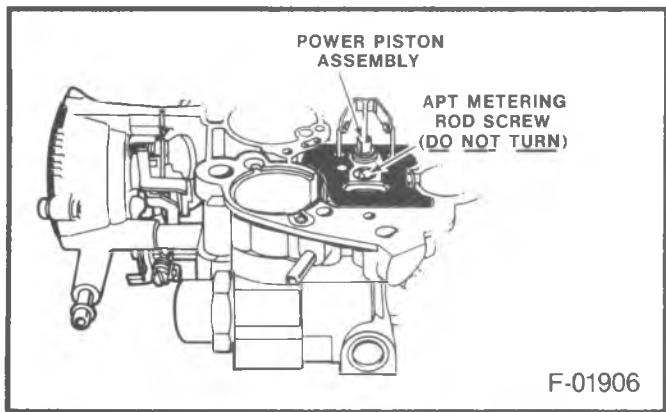

Figure 25 -- APT Metering Rod Screw
-  Remove or Disconnect (Figures 25 - 27)
1. Power valve piston assembly (212) and primary metering rods (213).
**Important (Figure 25)**